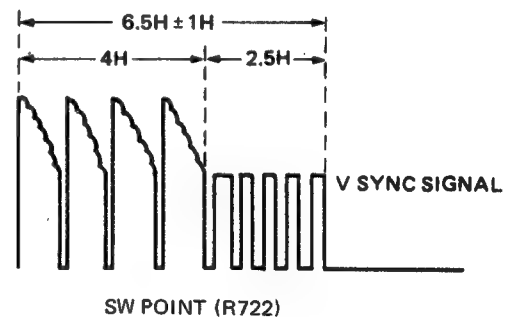

Figure 8-16.
4. Selecting (+) sync slope with the oscilloscope, adjust R722 to meet the requirements given in Figure 8-16.